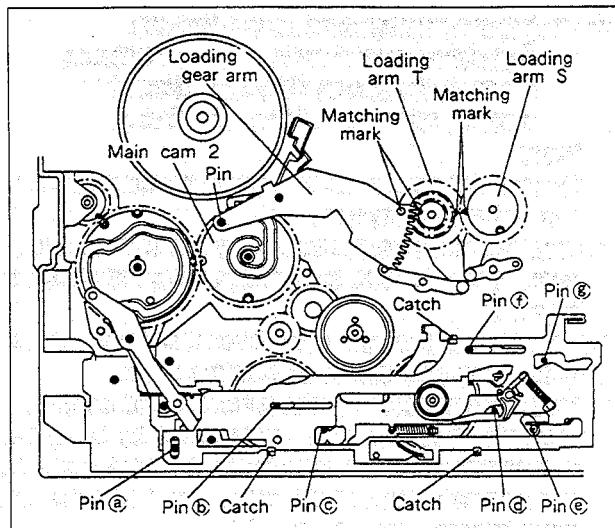
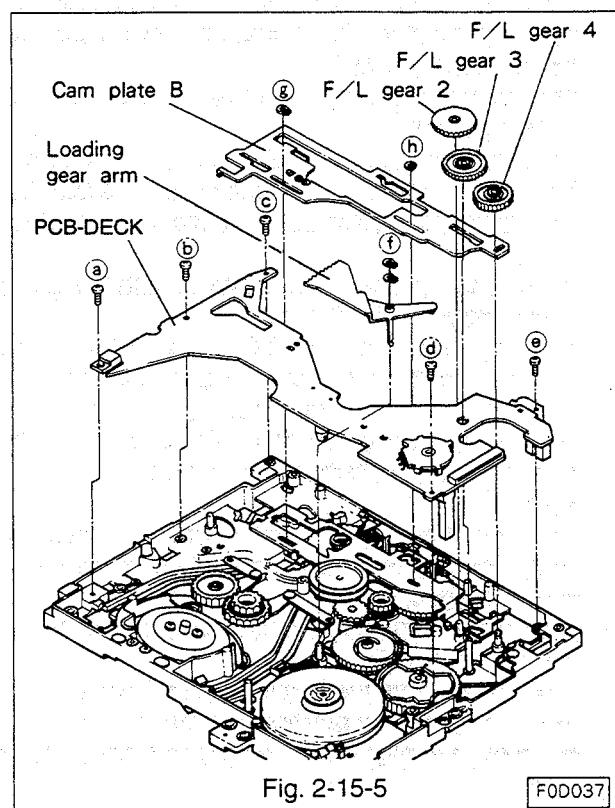

Fig. 2-15-4
Fig. 2-15-5
- J. Install the cam plate B so that the plate matches pins (a ~ g) as shown in Fig. 2-15-4, especially pin e, and secure the plate with three clamps, cut washer (pin b) and grip ring (pin f).
K. Line the matching mark of the loading arm T with that of the loading gear arm as shown in Fig. 2-15-4, and assemble the loading gear arm to the shaft so that the pin of the loading gear arm enters the groove of the main cam 2. Secure arm with two grip rings (f). (Refer to Fig. 2-15-5.)
L. Assemble the F/L gear 2, 3, and 4 to the shafts as shown in Fig. 2-15-5.